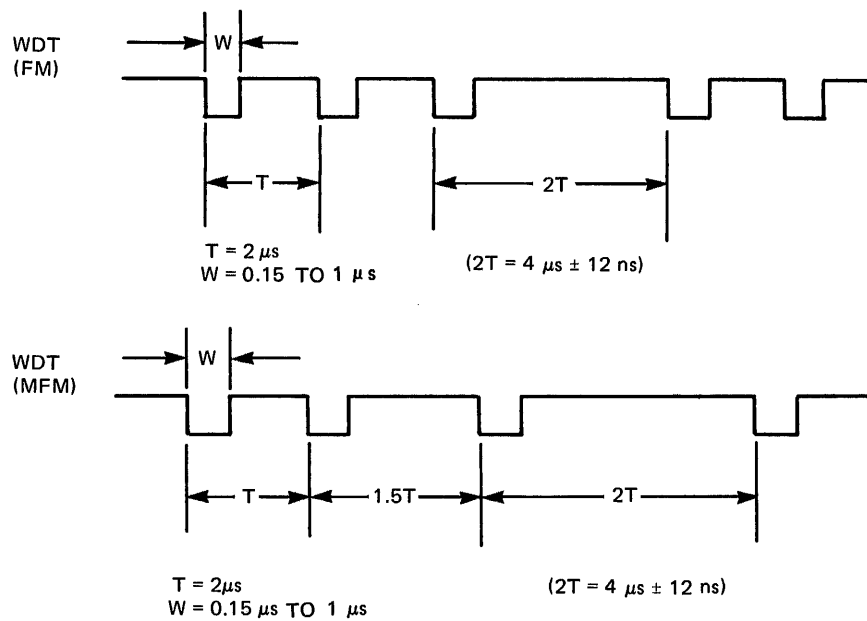

Figure 3-5 Write Data Signal Timing
The signals on this line contain the data that is written on the flexible disk. The data is in Frequency Modulated (FM) or in Modified Frequency Modulated (MFM) format (see Figure 3-5).